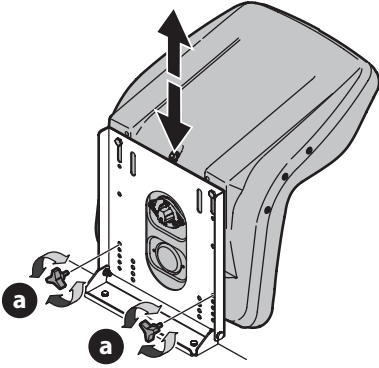

Fig. 16
1. Remove the knobs (a) (Fig. 16).
3. Replace the knobs into one of the four hole settings and tighten securely (Fig. 16).